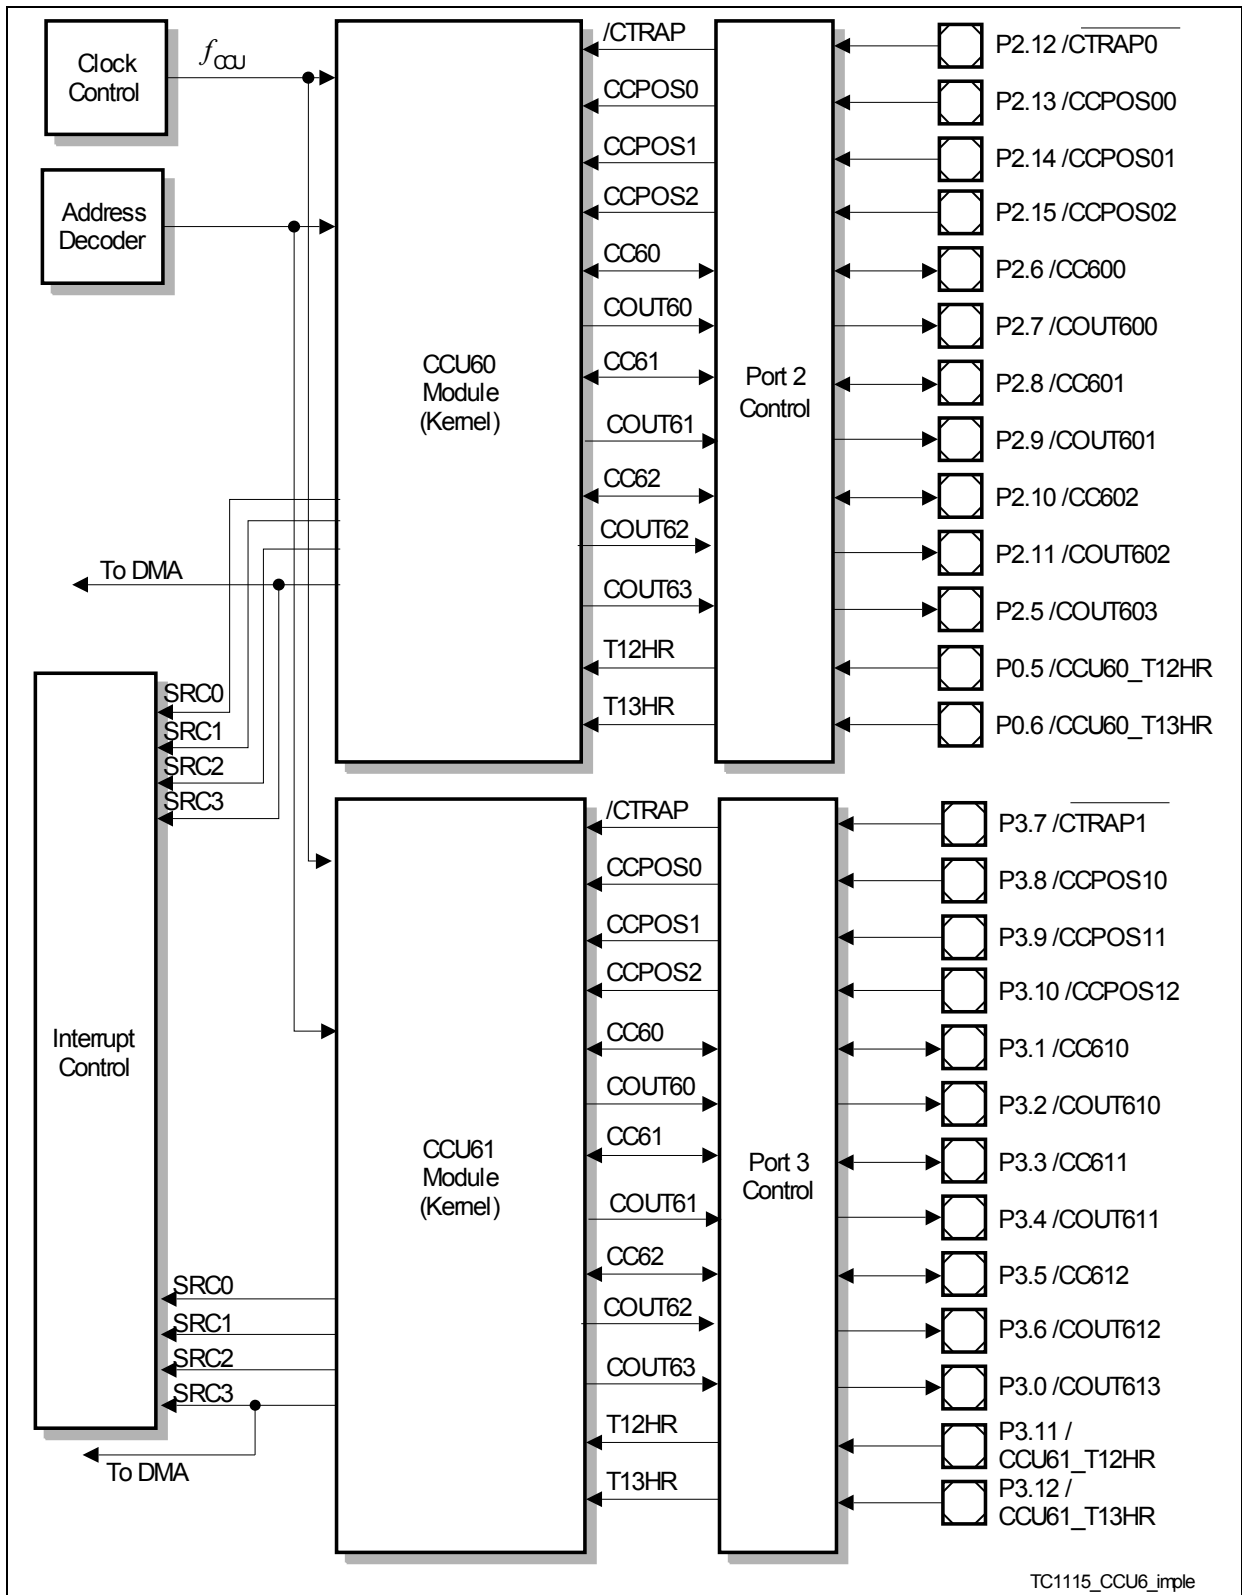

Figure 3-11 General Block Diagram of the CCU6 Interfaces
**Figure 3-11** shows a global view of the functional blocks of two Capture/Compare Units (CCU60 and CCU61).